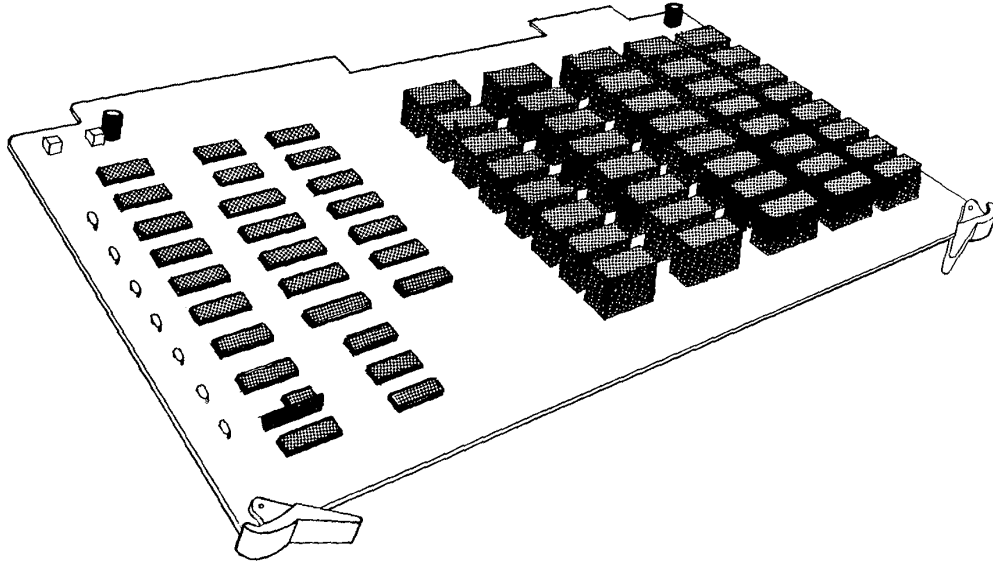

Figure 7-4 RMXU-6A PCB, EK-616
- (c) **RMXU-6A ( Matrix Expansion )**, ( Figure 7-4 ) consisting of CO line relay matrix expansion and crosspoint matrix expansion elements for a heavily loaded ( greater than three line by four ICM link ) system. The RMSU Shorting PCB shorts the relay matrix area on systems where the RMXU-6A is not required.